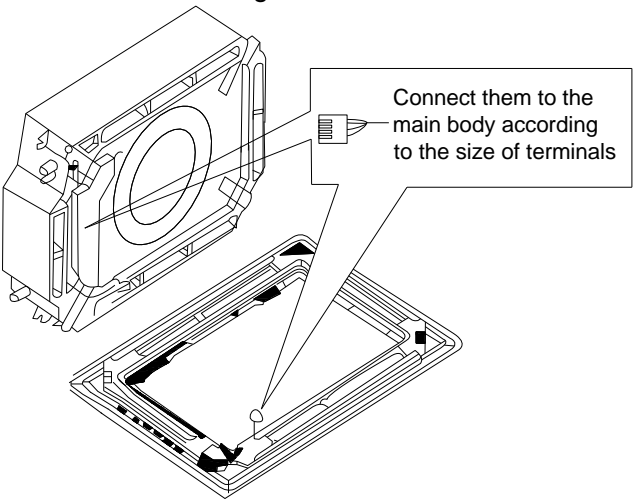

Figure 3-1-48
(9) Wire the swing flap motor as shown in Figure 3-1-48.